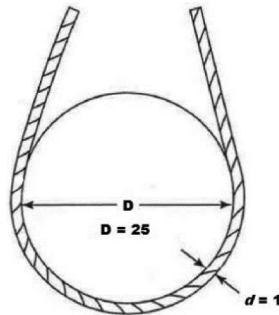

Figure 19
- Diameter of curvature over which the sling is used (D/d) (see Figure 19, D/d ratio);
- (8) Use of wire rope slings.
- (g) Decrease the rated load of the sling when D/d ratios (Figure 19) smaller than 25 to one. Consult the sling manufacturer for specific data or refer to the *Wire Rope Sling User's Manual* (wire rope technical board).